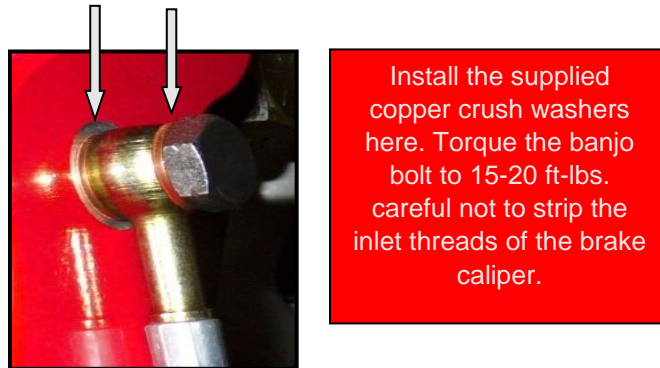

Figure 8: Stainless steel braided brake hose installed to the caliper
18. Connect the new supplied stainless steel braided hose to the caliper with the supplied banjo bolt and new copper crush washers. Install one copper crush washer to each side of the banjo fitting on the caliper (2 per caliper), refer to Figure 8. ***IMPORTANT:** Position the hose to avoid interference with the wheel and suspension components through their entire range of motion. Tighten banjo bolts to **15-20 ft-lbs.** taking care not to strip the inlet threads on the caliper.